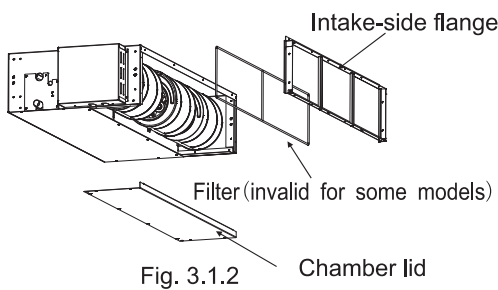

Fig. 3.1.2 Chamber lid
- (1) Remove the intake-side flange, then remove the chamber lid. Refer to Fig. 3.1.2 for the directions.